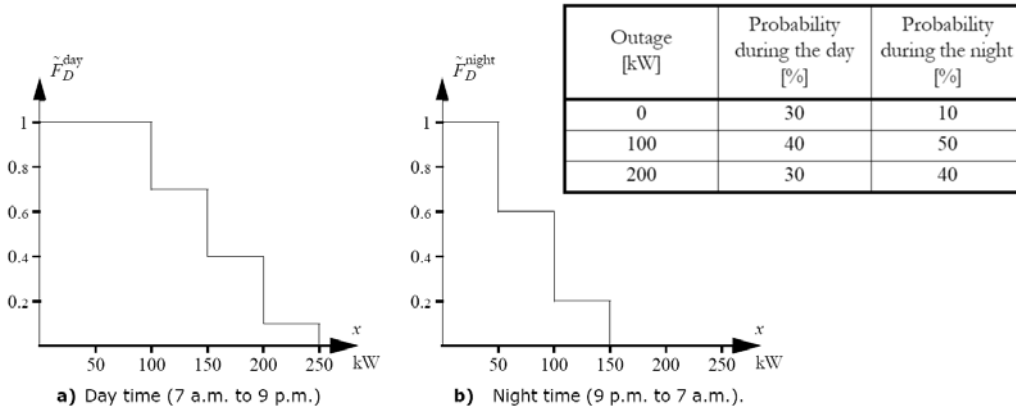

Figure 6.12 The load for the small island in example 6.13.
- **Example 6.13 (the power system in a small island):** The small island Kobben is not connected to the national grid, but there is a local grid which is powered by a small wind power plant (installed capacity 200 kW) and a diesel generator set. The diesel generator set has a maximal capacity of 200 kW and the availability is 95%. A simplified model of the wind power plant is stated in table 6.5. The load duration curve is shown in figure 6.12. Calculate the risk of power deficit in this system.